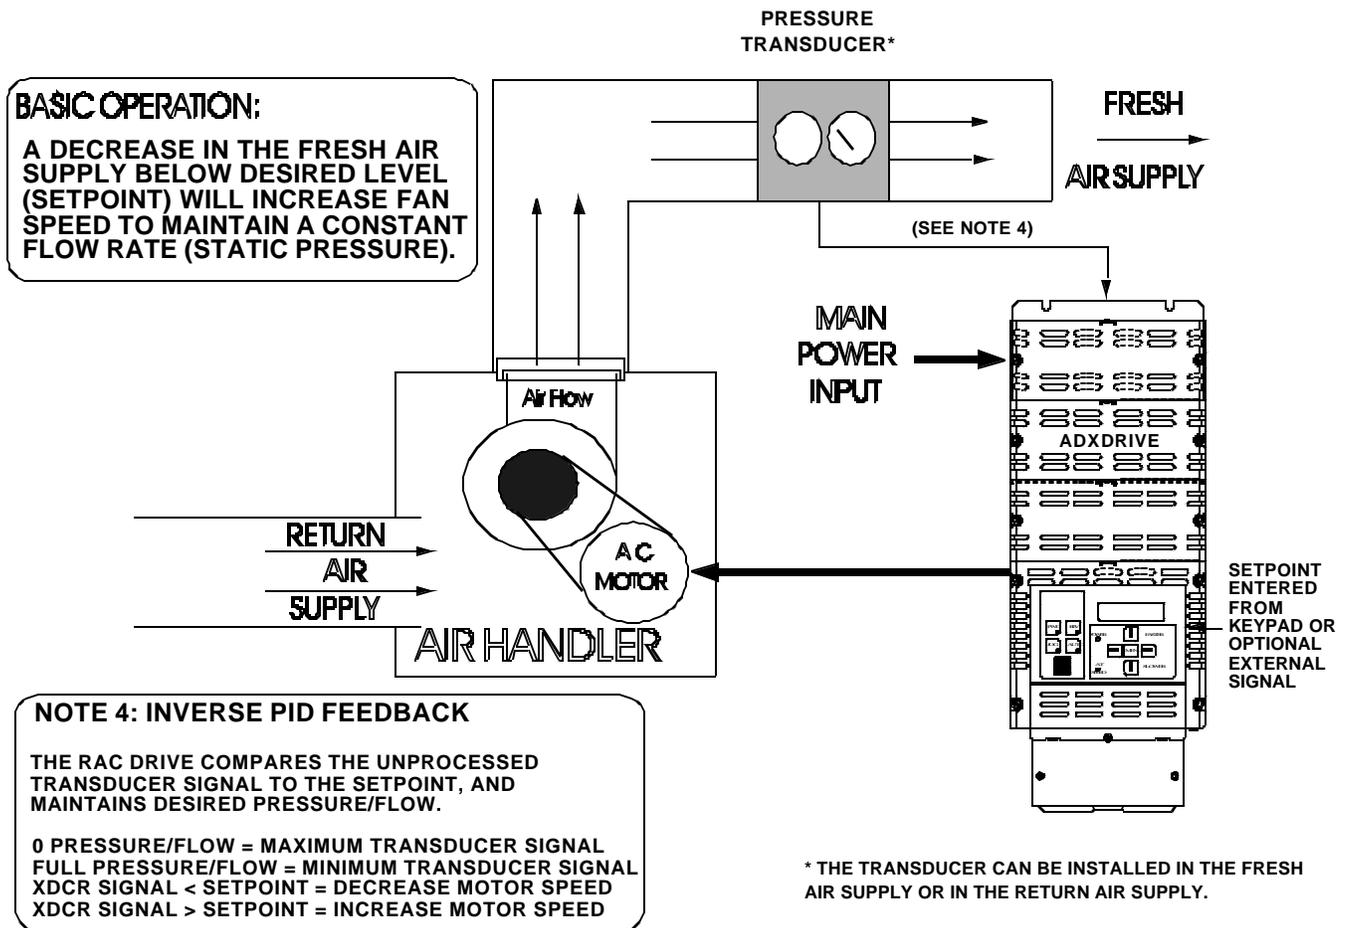

FIGURE 7-8. TYPICAL EXAMPLE OF AN AIR HANDLING APPLICATION USING INVERSE PID CONTROL (SETUP #9 OR SETUP #11)
1. The transducer output is inverted (i.e., the transducer output is minimum when the process variable (pressure, flow, or temperature) is maximum, and vice versa). Refer to Figure 7-8 (page 7-12) for a typical example of an air handling application.